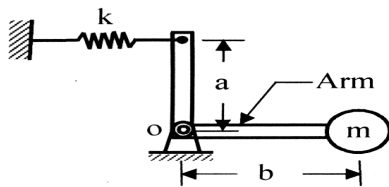

Fig.1, Q. No. 1 (b), P08AU65
- b. Determine the natural frequency of the system shown in Fig. 1.Q.1. (b) by neglecting the mass of the bell crank lever (arm). 6